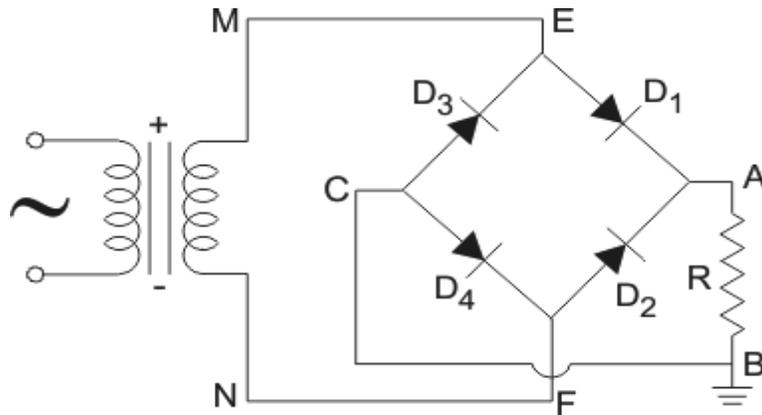

Figure 9.1: Full wave bridge rectifier
1. Connect the circuit for Full wave bridge rectifier on breadboard as shown in Figure 9.1